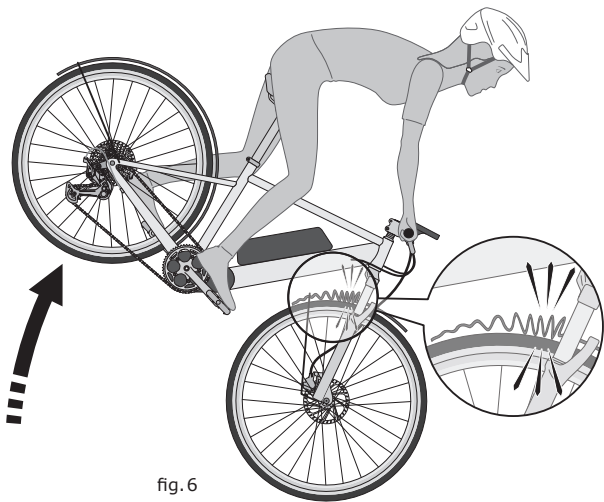

fig. 6
**⚠ WARNING:** Any object that unexpectedly and abruptly stops the rotation of the front wheel can cause the e-bike and rider to pitch forward [fig. 6], which can result in serious injury or death.